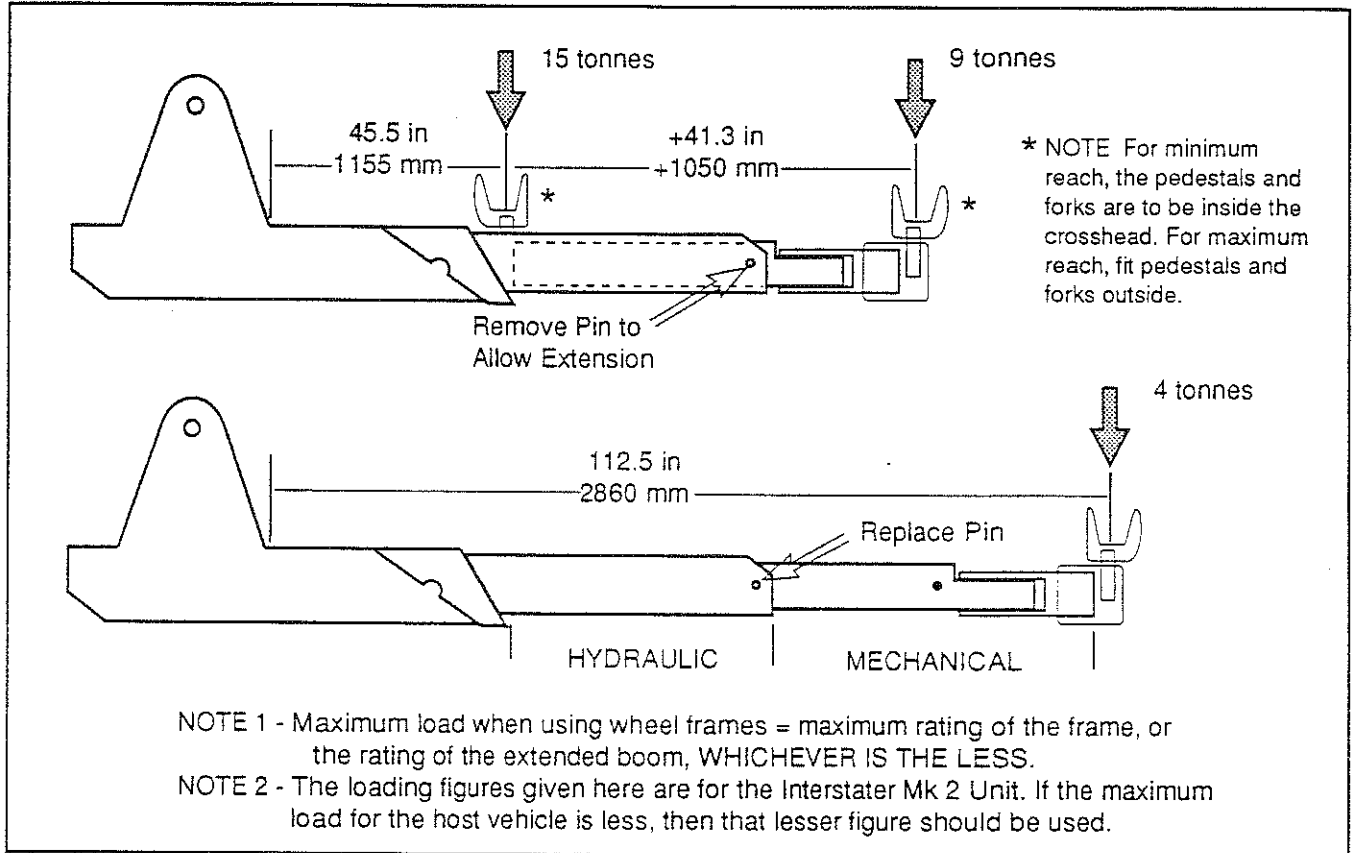

Figure 7- Performance Figures for the Type C Extending Boom
6. The lifting capacity of the unit is given in Figures 7 & 8. However the chassis size, weight and boom rating may limit the actual loads which can be lifted or towed. The installation of extra leaf springs is recommended, and if a choice is available, a higher rated chassis should be used in order to allow an increased payload. (See the test certificate for your vehicle.
- 2.1.10 All Models. Using the hydraulic control lever, operate the extendible boom and check for leaks. Ensure that the extension is that specified in Figure 7 or 8 of this book.
- 2.2.2 Without aiming to overload the Interstater or the vehicle it is fitted to, (See Figure 7 or 8 for loadings at full hydraulic extension), chose another vehicle which can be lifted by the unit, and prepare to lift as described in Part 3 of this book.